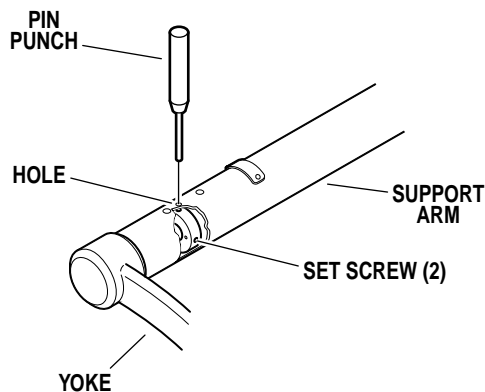

Figure 2-7. Model 23 Roll Adjustment
b. The lighthouse should move freely yet maintain its position without drifting. If an adjustment is required, refer to figure 2-7 and proceed as follows: